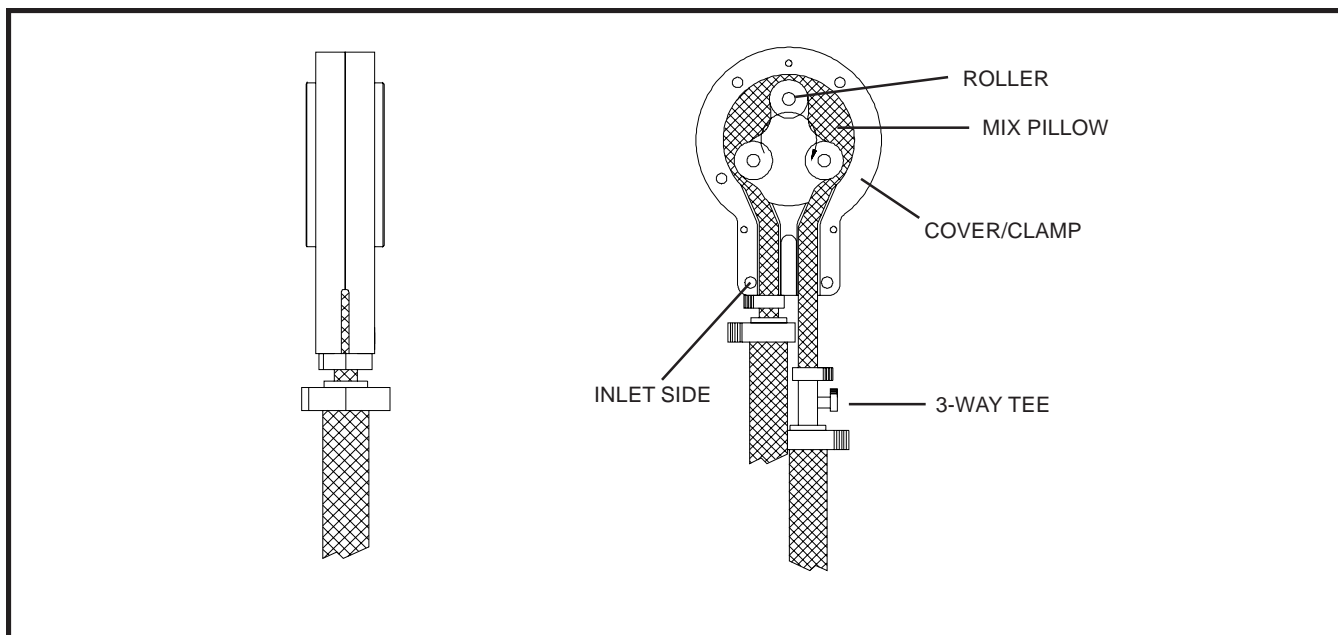

Figure 5
- B. Mix Operation: The peristaltic mix pump contains one continuous mix pump hose. When looking at the face of the peristaltic mix pump, the left side of this hose is the suction or pickup. The right side of the hose is the discharge. Mix is drawn up the suction side of the hose and transferred thru the discharge side to the freezer (Fig. 5).